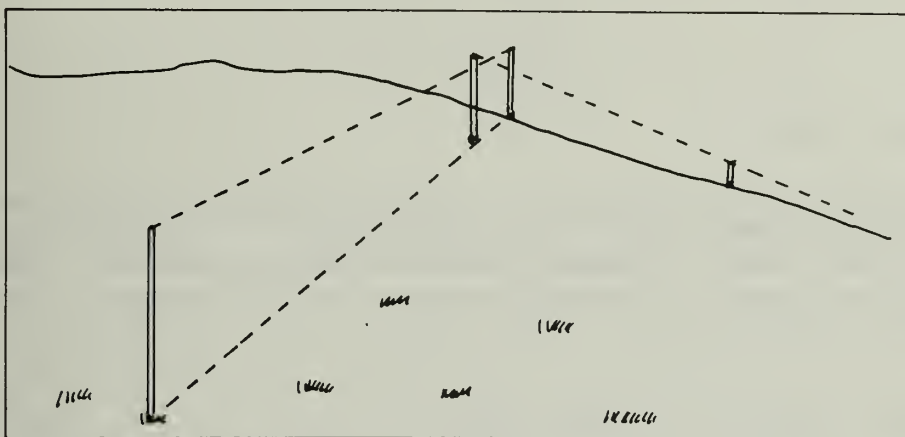
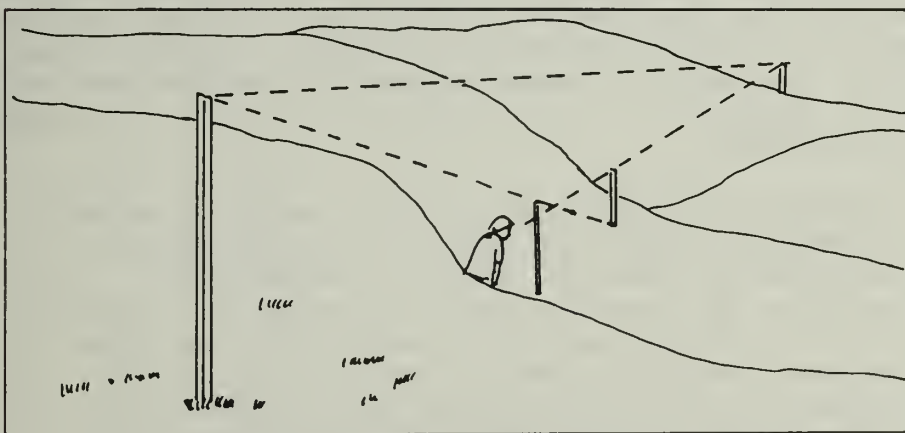
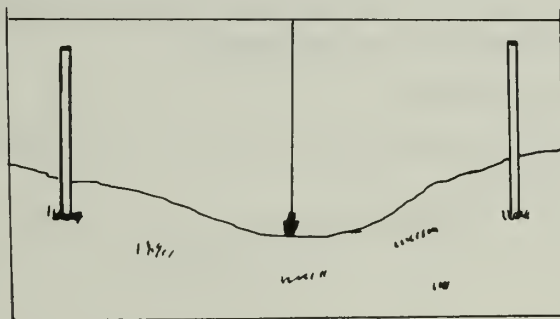

Figure 16. Sighting a Fenceline over Rises
Figure 17. Sighting a Fenceline through Dips
Figure 20. Use of plumb bob for locating post position in dips
While rises or dips are in the sighting line, special techniques are involved. For a rise, set two sighting poles about three meters apart at the top of the rise, so that both can be seen from either end of the fence (Fig. 16). When crossing a dip, place two poles and align these by sighting from the highest point on both sides of the dip (Fig. 17).
5. Near the sighting poles in each dip, mark the locations for dip posts. This may be done by using a plumb bob (Fig. 20) if you can reach the guide wire, or by sighting using the sighting poles (Fig. 17).